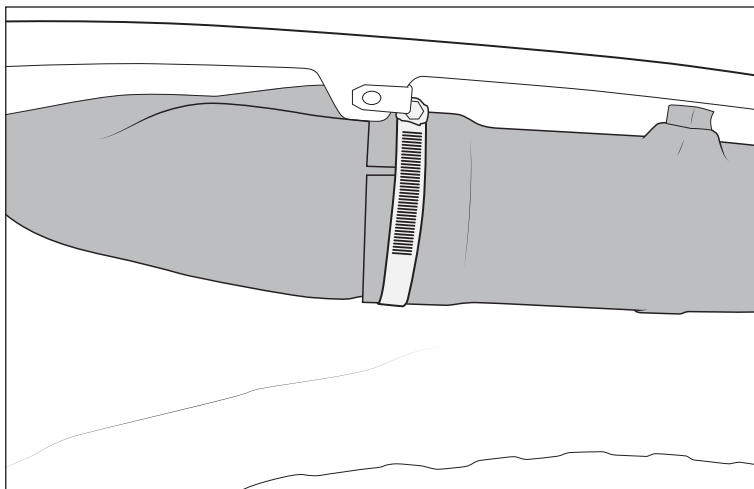

Figure 18
15. Tighten the hose clamp around intake tube and snorkel body connection (fig. 18).